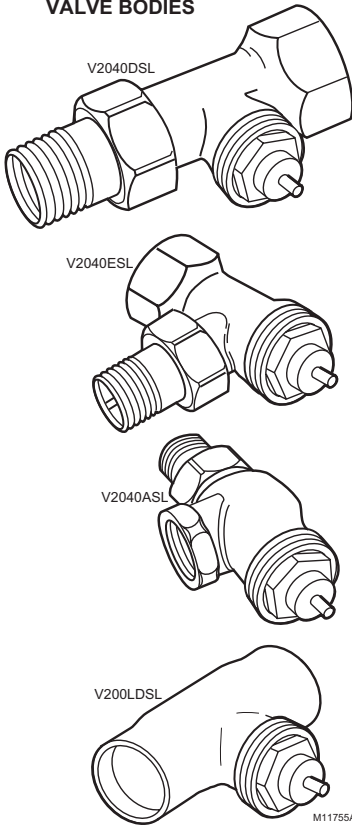

Fig. 1. V2000 SERIES valve bodies.
4. Install the valve so the T100 operator is to the side of the valve, see Fig. 1.